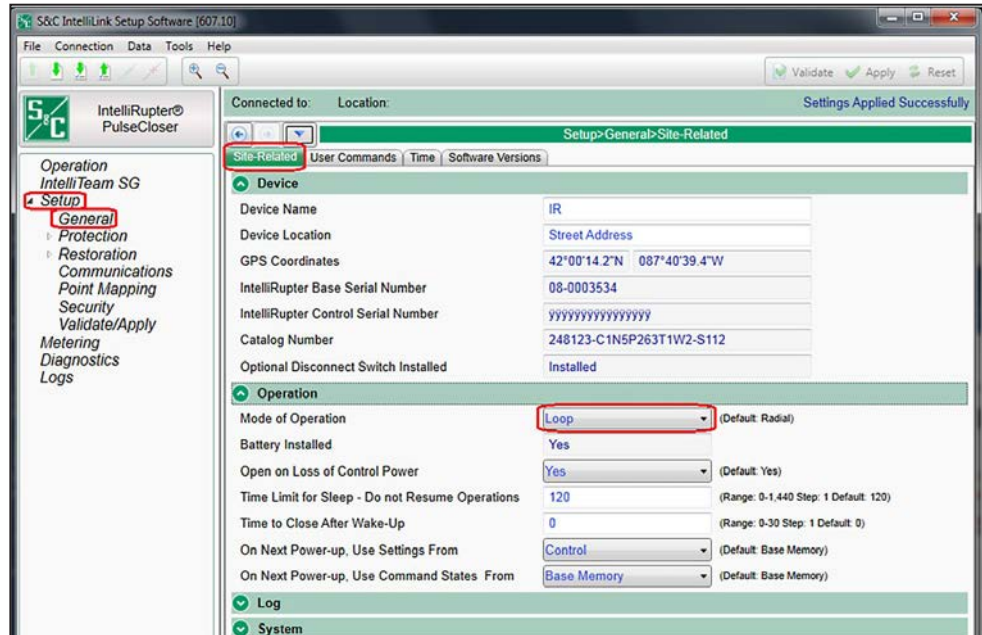
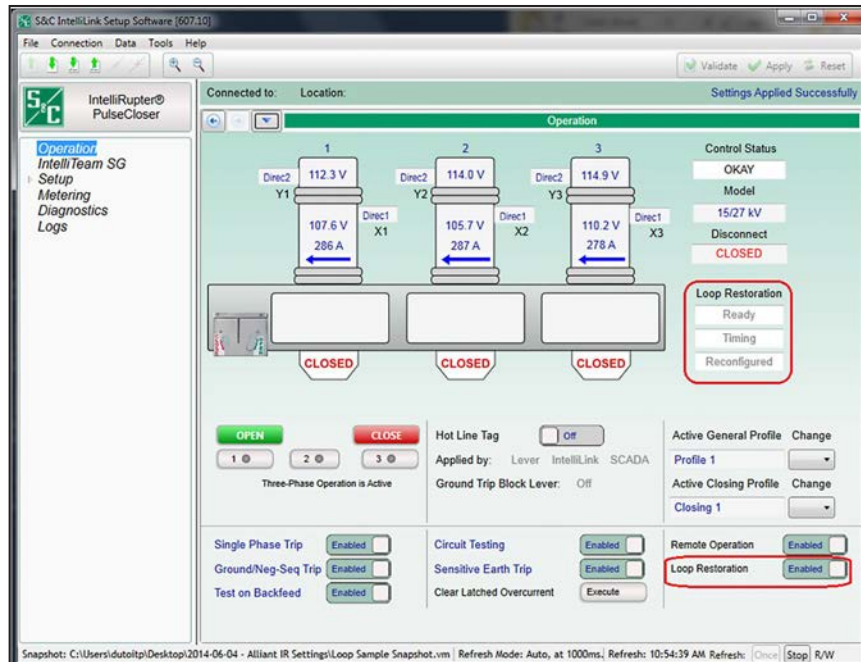

Figure 74. The *Setup>General>Site Related* screen.
Figure 75. Loop Restoration information on the *Operation* screen.
STEP 3. On the *Setup>General>Site Related* screen, set the **Mode of Operation** setpoint to the **Loop** mode. See Figure 74. This puts the **Loop Restoration** mode information on the *Operation* screen. See Figure 75.